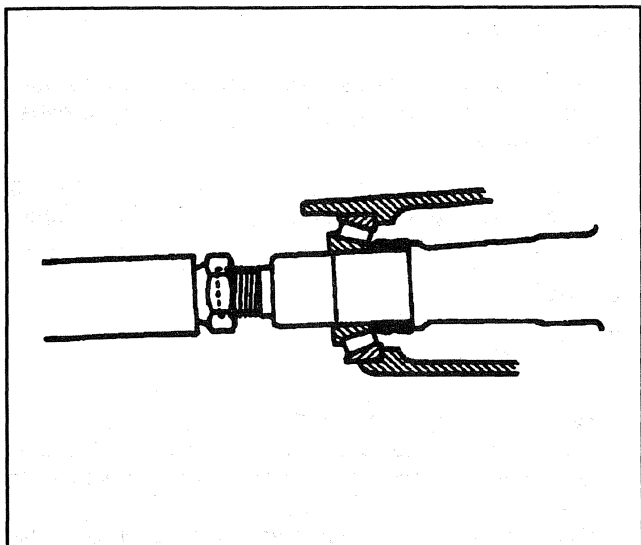
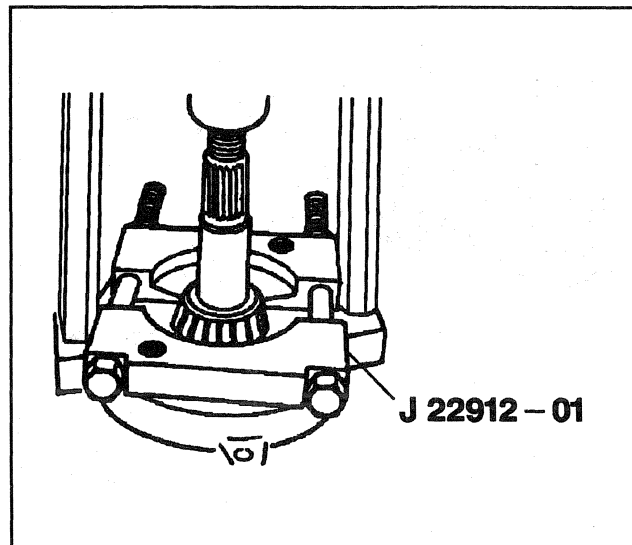

Figure 8—Removing the Drive Pinion
Figure 9—Removing the Pinion Rear Bearing
18. Pinion (7) from the axle housing.
- B. Replace the differential cover (12) with two bolts (14) to keep the pinion from falling to the floor.
- C. Drive the pinion out of the housing with a hammer and a soft drift (Figure 8).
19. Collapsible spacer (4) from the pinion.
20. Outer pinion seal (38) and bearing (39).
21. Inner bearing (5) and shim (6) from the pinion.
- A. Press the bearing off the pinion using J 8612-B (Figure 9).